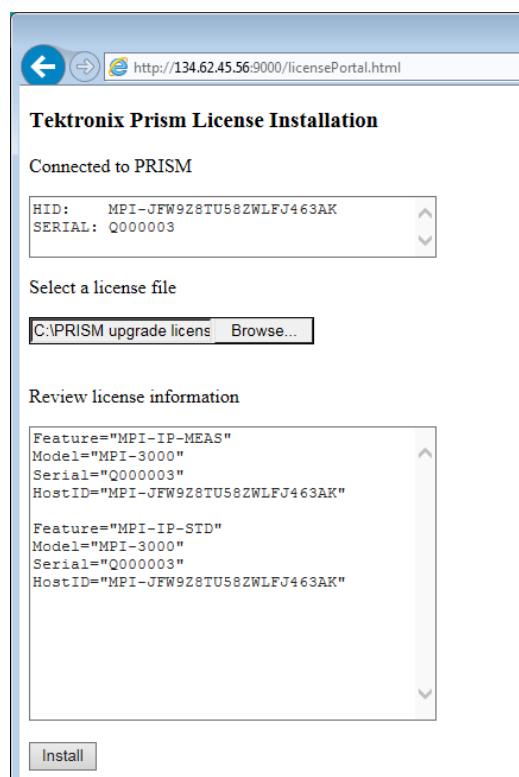

Figure 60: PRISM License Installation Web page – license upgrade information review
6. Click **Browse...**, and then navigate to the location of the software license file. (See Figure 60.)